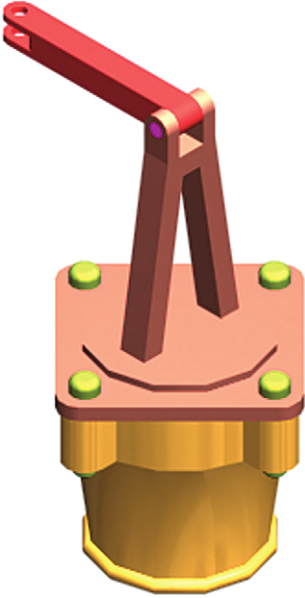
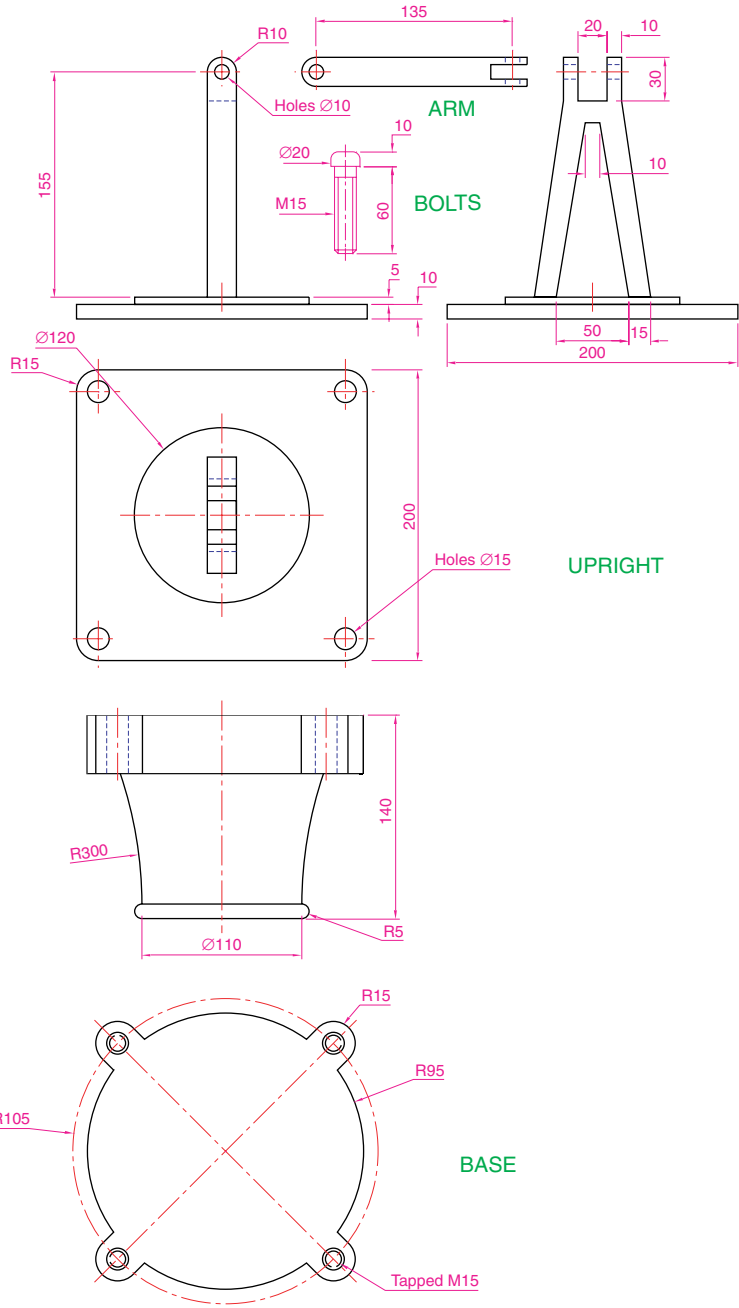

Fig. 19.30 Exercise 3
Fig. 19.31 Exercise 3 – the parts drawing
3. Construct the 3D model shown in the rendering in Fig. 19.30 from the details given in the parts drawing in Fig. 19.31.